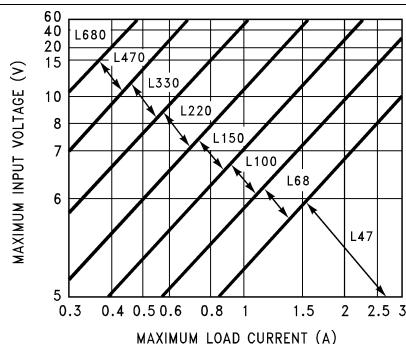
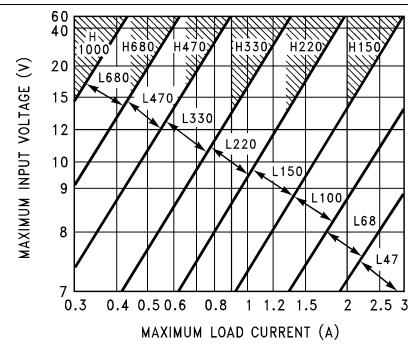
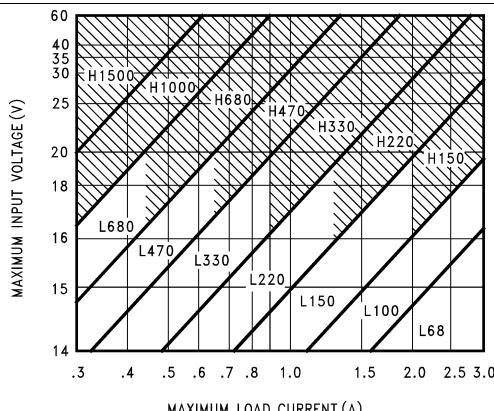

Figure 27. LM2576(HV)-3.3
Figure 28. LM2576(HV)-5.0
Figure 29. LM2576(HV)-12
The inductor value selection guides in Figure 27 through Figure 31 are designed for buck regulator designs of the continuous inductor current type. When using inductor values shown in the inductor selection guide, the peak-to-peak inductor ripple current is approximately 20% to 30% of the maximum DC current. With relatively heavy load currents, the circuit operates in the continuous mode (inductor current always flowing), but under light load conditions, the circuit is forced to the discontinuous mode (inductor current falls to zero for a period of time). This discontinuous mode of operation is perfectly acceptable. For light loads (less than approximately 300 mA), it may be desirable to operate the regulator in the discontinuous mode, primarily because of the lower inductor values required for the discontinuous mode.
1. Select the correct Inductor value selection guide from Figure 27, Figure 28, Figure 29, or Figure 30. (Output voltages of 3.3 V, 5 V, 12 V or 15 V respectively). For other output voltages, see the design procedure for the adjustable version. Use the selection guide shown in Figure 28.
3. Identify the inductor value from the inductor code, and select an appropriate inductor from the table shown in Figure 27. Part numbers are listed for three inductor manufacturers. The inductor chosen must be rated for operation at the LM2576 switching frequency (52 kHz) and for a current rating of $1.15 \times I_{LOAD}$. For additional inductor information, see Inductor Selection. Inductor value required is 100 μ H from the table in Figure 27. Choose AIE 415-0930, Pulse Engineering PE92108, or Renco RL2444.